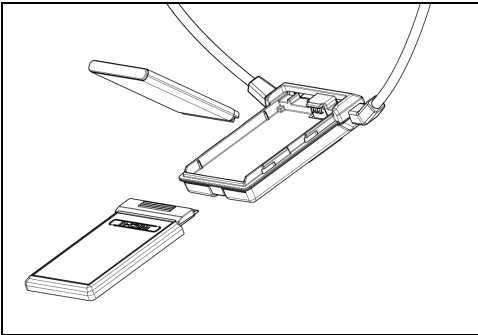

Fig. 1
- Open the small door on the e-box and place the rechargeable battery inside the system, making sure it is inserted in the right direction (Fig.1)